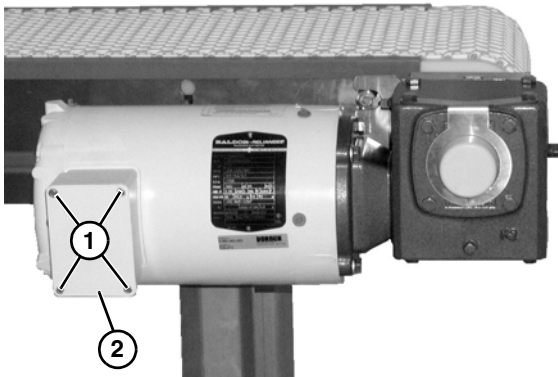

Figure 24
1. Loosen terminal box screws (Figure 24, item 1) and remove cover (Figure 24, item 2).